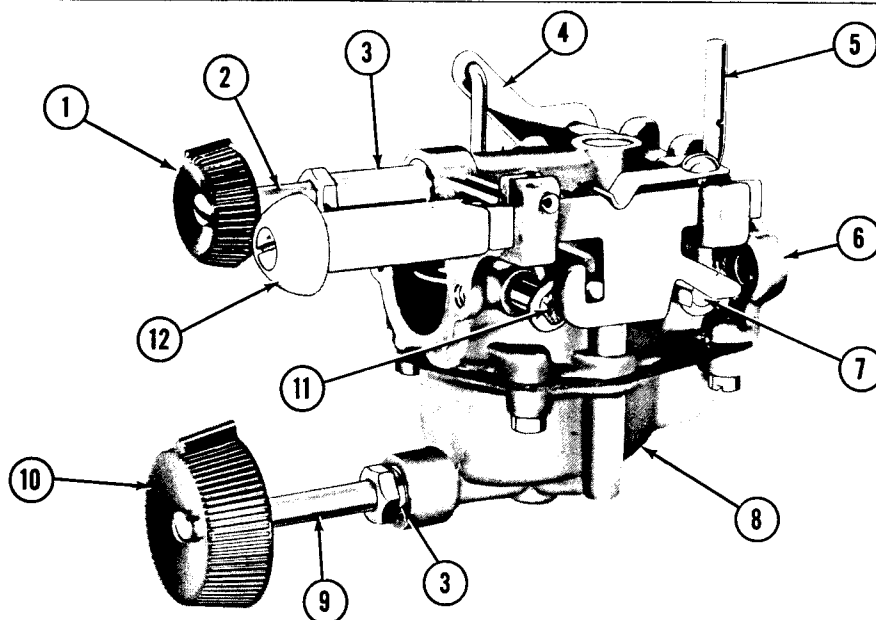

Figure 12
packing nuts (item 3, Figure 12).